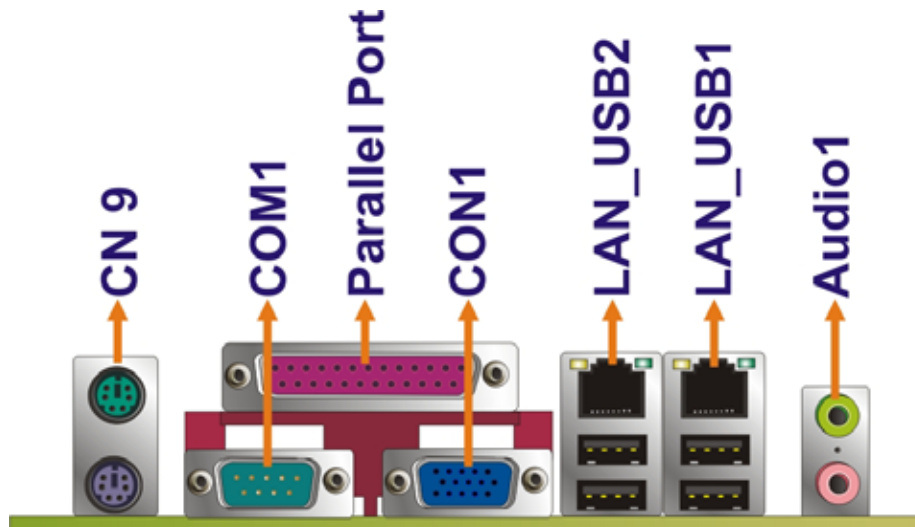

Figure 4-22: External Interface Connectors
Figure 4-22 shows the IQ7-DB-MITX motherboard external interface connectors. The IQ7-DB-MITX on-board external interface connectors are shown in Figure 4-22.
CN Location:	See Figure 4-22
CN Location: See Figure 4-22
- CN Location:** See Figure 4-22